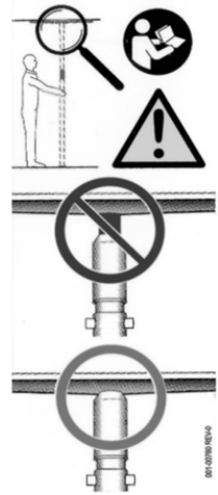

Figure 18
**WARNING:** **RED ZONE MUST NOT BE VISIBLE FOR THE POST TO BE SAFELY SECURED** (see the warning label, apposed on each post, as shown in Figure 18).